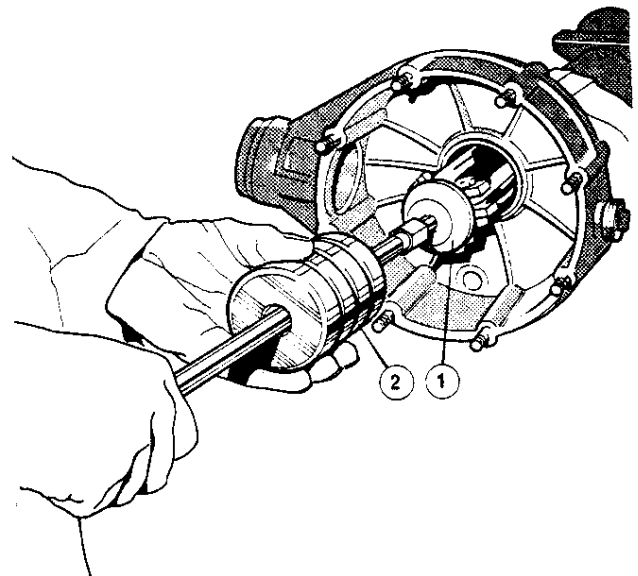

Figure 9 Removal of axle bearing cones from outer housing
10. Using the three legged puller tool No. RT 3072-1 on slide hammer tool No. 3072, remove the axle housing outer bearing cones (Figure 9).